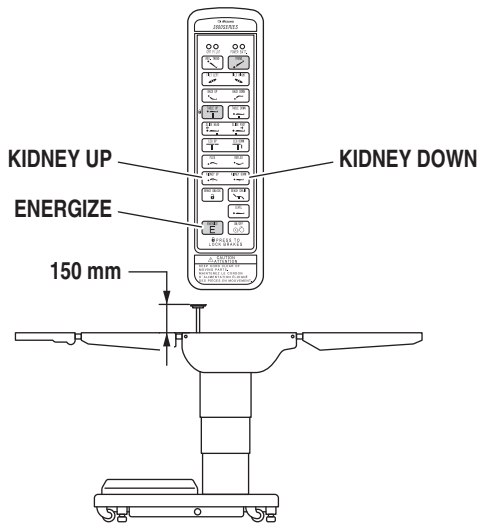

Figure 2-14. Kidney Lift Positioning
i. Kidney Lift To raise the built-in kidney lift, press the ENERGIZE button and then the KIDNEY UP button (figure 2-14). Up to 150 mm of lift can be achieved. Press the ENERGIZE button and then the KIDNEY DOWN button to lower the kidney lift.